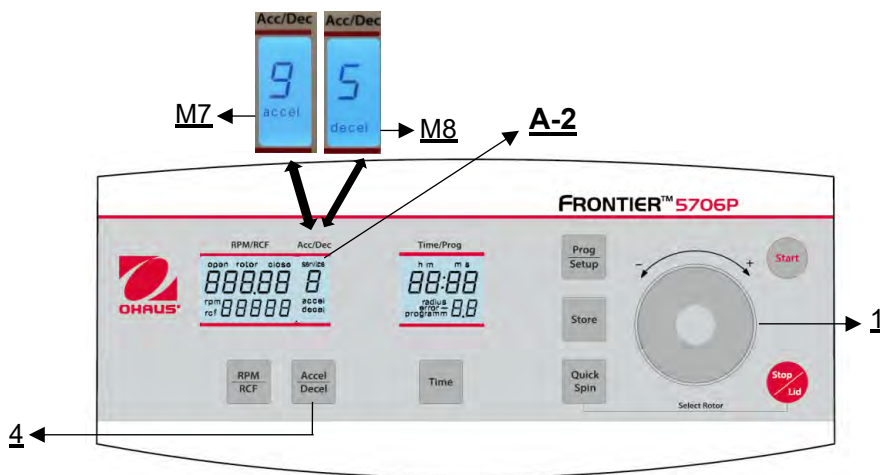

Figure 19
This function is activated through the key **"Accel/Decel"** (4) (refer to Figure 19).